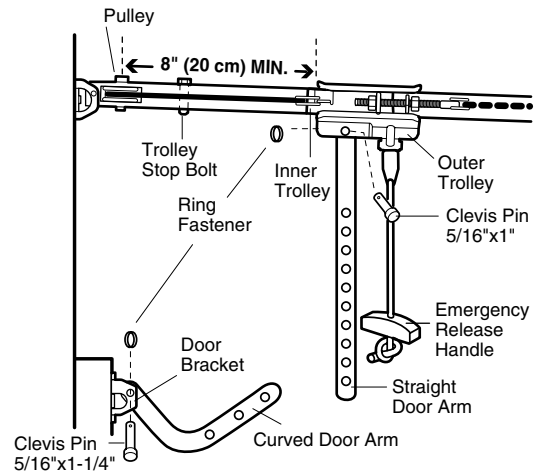

Figure 1
- Make sure garage door is fully closed. Pull the emergency release handle to disconnect the outer trolley from the inner trolley. Slide the outer trolley back (away from the pulley) for 8" (20 cm) minimum as shown in Figures 1, 2 and 3.
• **Figure 1:**